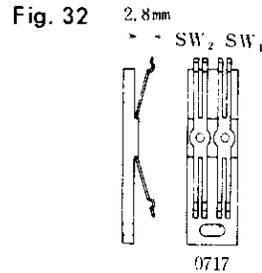

Fig. 33
- ① Adjust the space between contact segment and its bearer to be about 0.5mm when they are released. See Fig. 33.
- ② Adjust contact segment and its bearer so that the former pushes the latter in about 0.2mm when they are set.